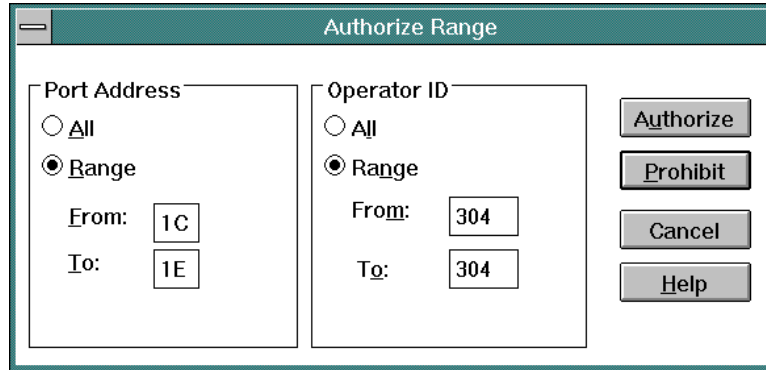

Figure 100. Authorize Range Dialog Box
- **Range** - When this button is clicked, the *Authorize Range* dialog box appears (Figure 100). Use the dialog box functions to: